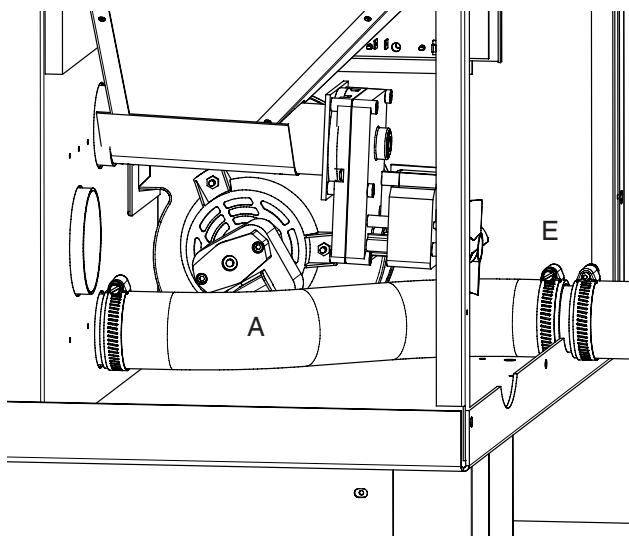

Figure 3
7. Attach one of the 2" flex hoses to the backside of the firebox, then to air inlet pipe at the back of the stove as shown in figure 3.
8. Stretch the 2" flex hose to the air inlet on the back of the stove. Attach using the other 2" hose clamp. See Figure 3. (The hose will extend up to 4 feet in length.) *For the insert model, only one flex hose will be used.*
**Figure 3 shown with Exhaust Housing